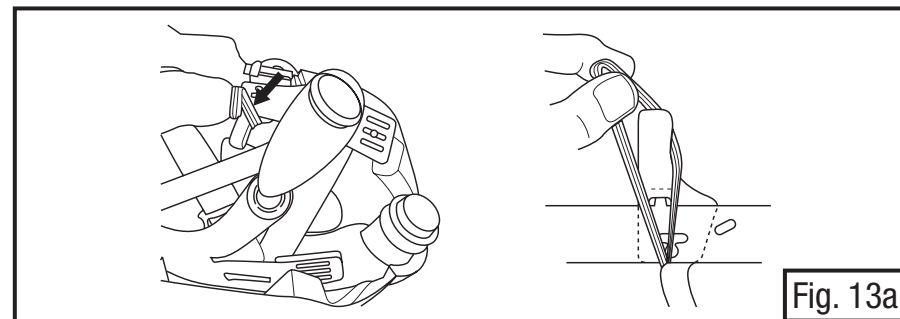

Fig. 13a
- With the visor frame in the down (closed) position, remove plastic faceseal tab from “T” attachment points on headband (Fig. 13a & b).
- Grasp elastic loop on faceseal and pull up over suspension headband and attach to the plastic tab (Fig. 13a).